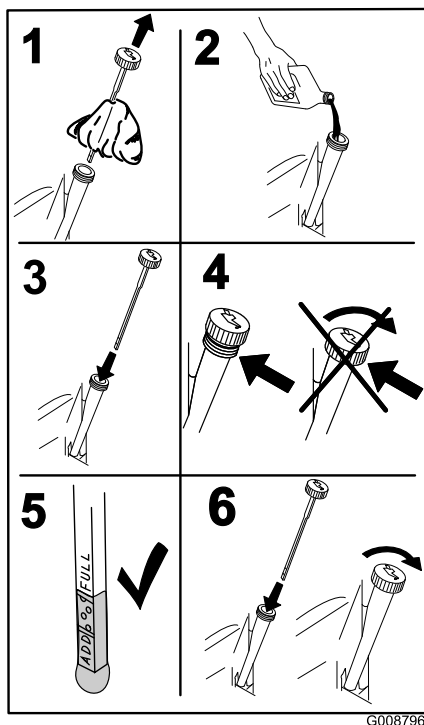

Figure 36
4. Slowly pour approximately 80% of the specified oil into the filler tube and slowly add the additional oil to bring it to the **Full** mark (Figure 36).